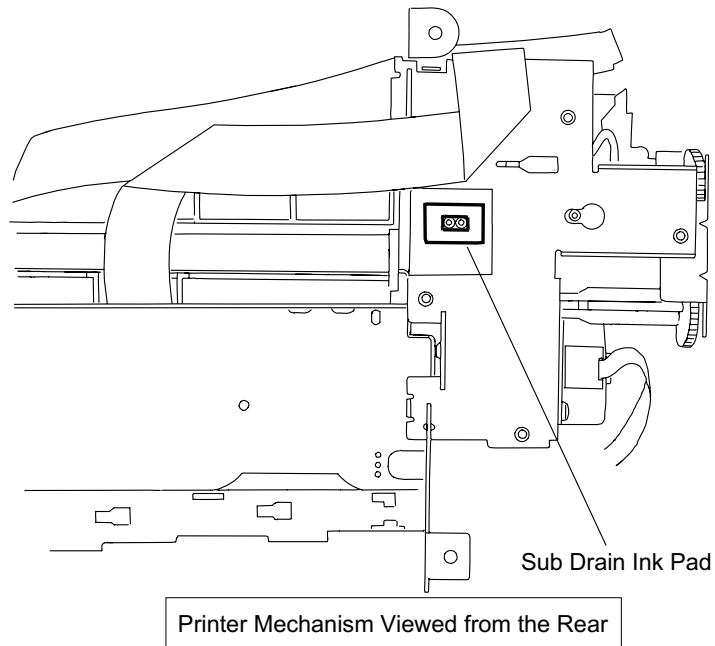

Figure 3-38. Sub Ink Drain Pad
- Do not forget to insert the sub ink drain pad into the printer mechanism before installing the mechanism into the lower case. The mounting location is shown in Figure 3-38.